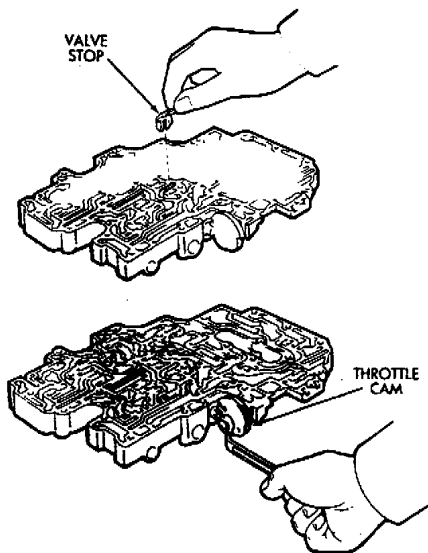

Fig. 3 Removing/Installing Valve Stop And Throttle Cam
(3) Remove valve stop and throttle cam (Fig. 3).